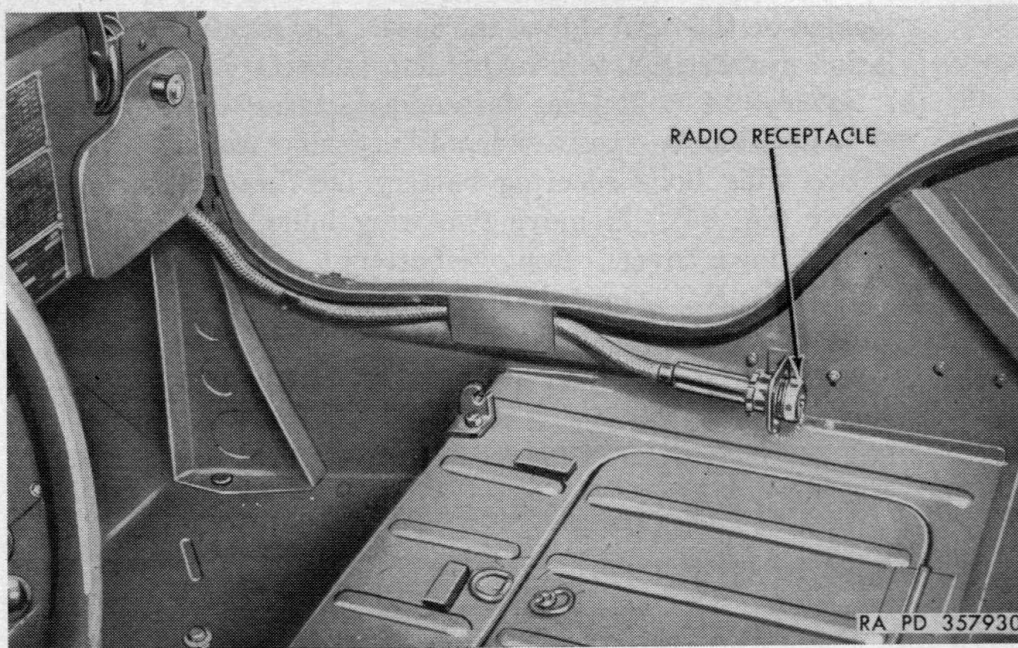

Figure 64. Radio receptacle.
- (8) *Radio receptacle.* The radio receptacle is located in the body compartment on the body side of the right seat (fig. 64), and provides power connection for radio.
(Fig. 64)